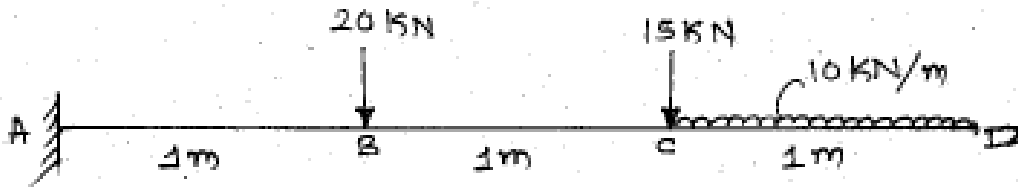

Figure No. 2 (Q. 5 (a))
- a) Draw S.F. and B.M. diagram for the beam loaded as shown in Figure No. 2.